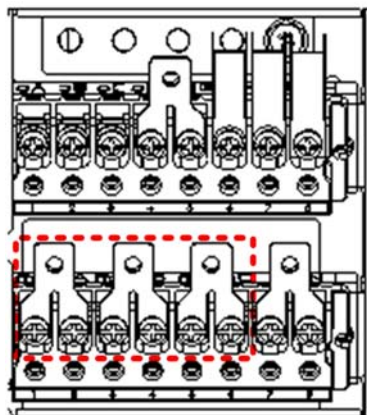

Figure 8-15 3-in 1-out, common input configuration (1)
a) Remove the three copper shorting bars from the rectifier input terminals mA, mB and mC, see Figure 8-15.